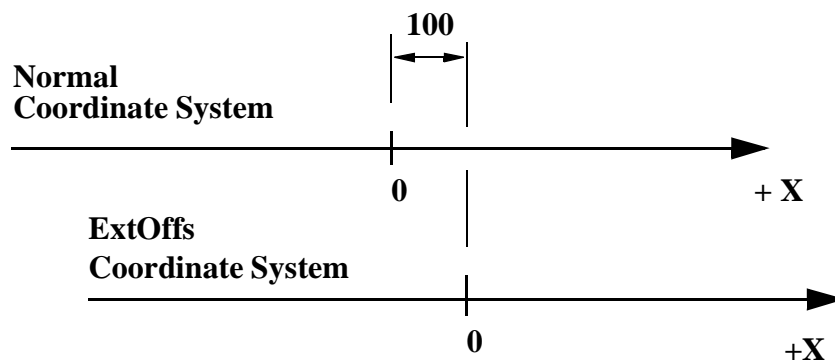

Figure 1 Displacement of an external axis.
- The ExtOffs coordinate system is displaced 100 mm for the logical axis “a” (see Figure 1).